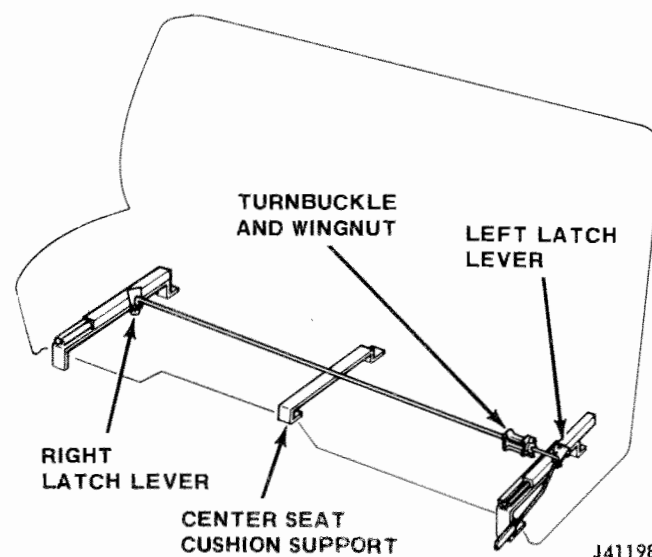

Fig. 19-1 Front Bench Seat Adjustment
- (1) Locate turnbuckle under left side of bench seat (fig. 19-1), and loosen turnbuckle wing nut.
- (2) Tighten turnbuckle until slack is removed from wire.
- (3) Back off turnbuckle three turns.
- (4) Secure wing nut up against turnbuckle.